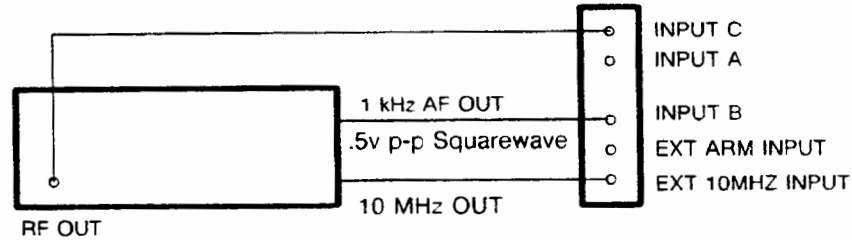

Figure 5-9. Ratio C / B Test Configuration
2. Connect the VX4223 to the signal generator as shown in Figure 5-9. Set the signal generator to 50 MHz, 100 mV rms. Verify that the counter's measurement result is 50000 ± 10 .